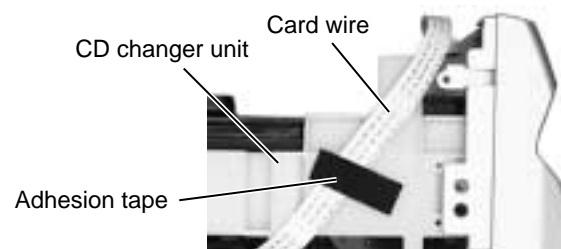

Fig.4
■ Removing the CD changer unit (See Fig.4 to 7)
(See Fig.4 to 7)